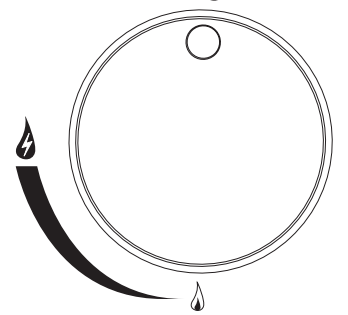

Figure 8
- If igniter does not light burner, use a lit match secured with the lighting rod provided to light burner manually. Position the lit match near side of the burner (Figure 8).